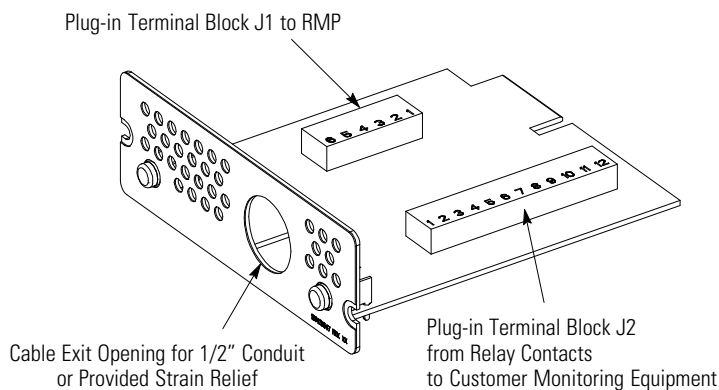

Figure 45. Industrial Relay Card
3. Install wiring from the RMP to the IRC using the cable listed in Table 3 and the provided strain relief bushings in the cable exit openings in the IRC (see Figure 45) and the RMP.
4. Connect the wiring between the RMP and the IRC plug-in terminal blocks using terminations shown in Table 3. See Figure 44 and Figure 45 for plug-in terminal block locations.
The IRC uses normally-open or normally-closed dry relay contacts to indicate the UPS status as listed in Table 4. Figure 45 shows an IRC.
2. Install wiring from the IRC to the monitoring equipment using 1/2" conduit through the cable exit opening in the IRC (see Figure 45).
3. Connect wiring between the IRC and the monitoring equipment using terminations shown in Table 4. See Figure 45 for plug-in terminal block locations.